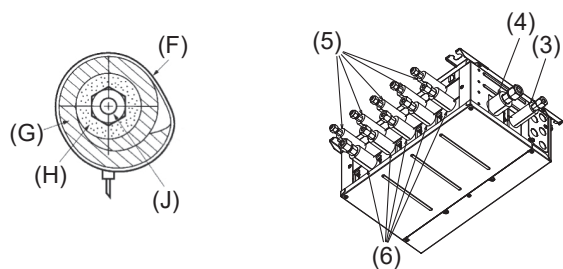
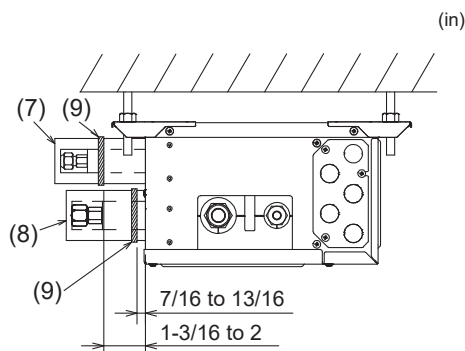

Fig. 7-3
Fig. 7-4
- Insulate the liquid and gas pipes of the Branch box by attaching the heat-resistant polyethylene foam tightly around them. (Fig. 7-3)
- 5) Press the pipe covers (3) and (5) on the liquid piping against the unit and wrap to hold in place. (Fig. 7-3)
- 6) Press the pipe covers (4) and (6) on the gas piping against the unit and wrap to hold in place. (Fig. 7-3)
- 7) Apply the supplied bands (9) at a position 7/16-13/16 in (10 - 20 mm) from each end of the pipe covers ((3)(4)(5)(6)).
- 8) If the indoor unit is not connected, fit the supplied pipe covers (with caps, (7) and (8)) to the Branch box refrigerant piping connections against the unit to prevent condensation dripping from the pipes. (Fig. 7-4)
- 9) Clamp the pipe covers ((7)(8)) in place with the supplied bands (9).
- (F) Band (3.1. Accessories No. (9))
- (G) Pipe covers (3.1. Accessories No. (3)(4)(5)(6))
- (H) Thermal insulation for refrigerant piping
- (J) Refrigerant piping
7.2. Handling of ports that are not connected to outdoor unit (Fig. 7-4)